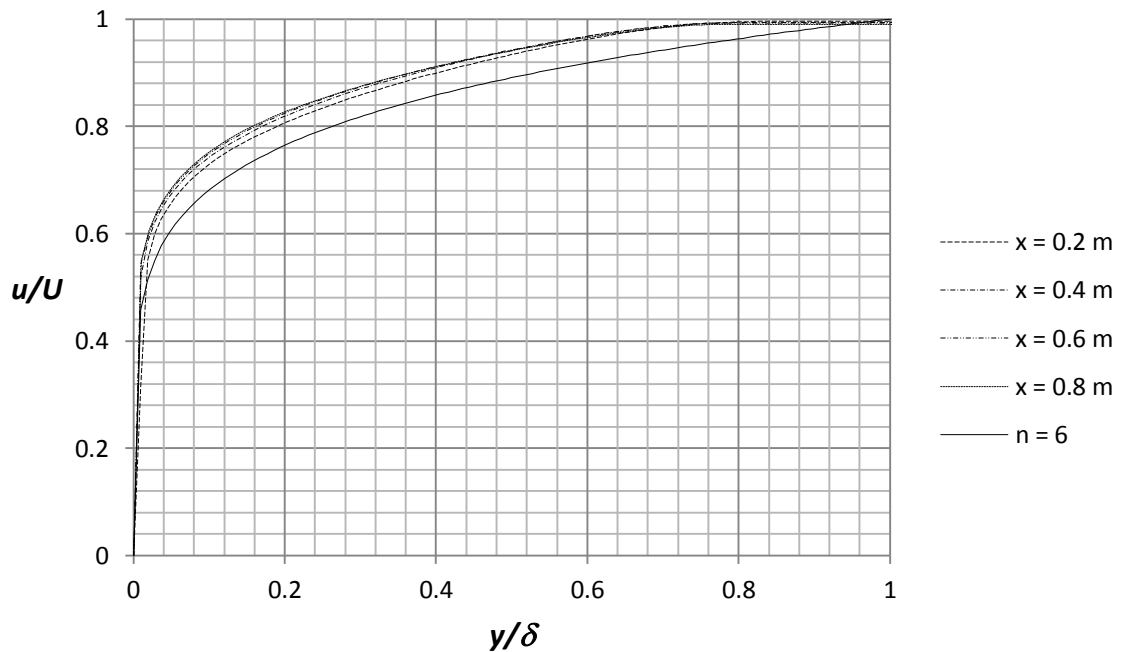

Figure 2.31 The same profiles as in figure 2.30a) compared with one-sixth power law for turbulent profile.
33. Place the file “xy-plot figure 2.31” into the **Local Disk (C:)/Program Files /SolidWorks Corp/SolidWorks Flow Simulation/lang/english/template/XY-Plots** folder to make it available in the **Template** list. Repeat step 24 and choose the sketch $x = 0.2, 0.4, 0.6, 0.8$ m and check the box for **Velocity (X)**. Rename the xy-plot to **Comparison with One-Sixth Power Law**. An Excel file will open with figure 2.31. In figure 2.31 we compare the results from Flow Simulation with the turbulent profile for $n = 6$. The power –law turbulent profiles suggested by Prandtl are given by